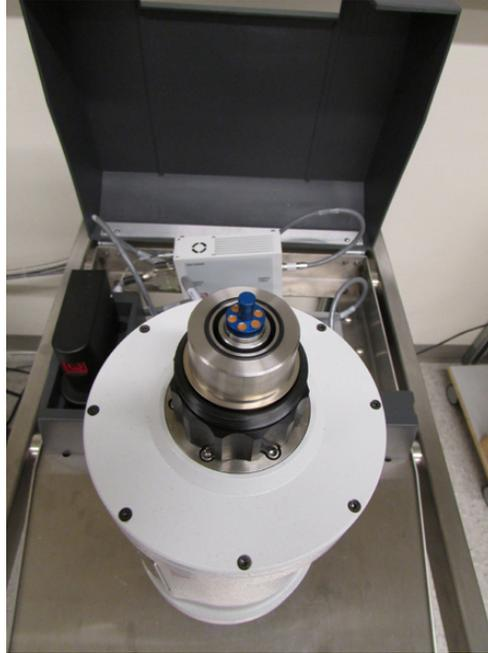

Figure 6. Inserted sample rod.
2) Screw the sample holder onto the sample rod and gently insert it into the VSM. The end of the rod is held in place by a set of magnets, so you will feel a tug as the rod seats itself into the instrument (Figure 6).